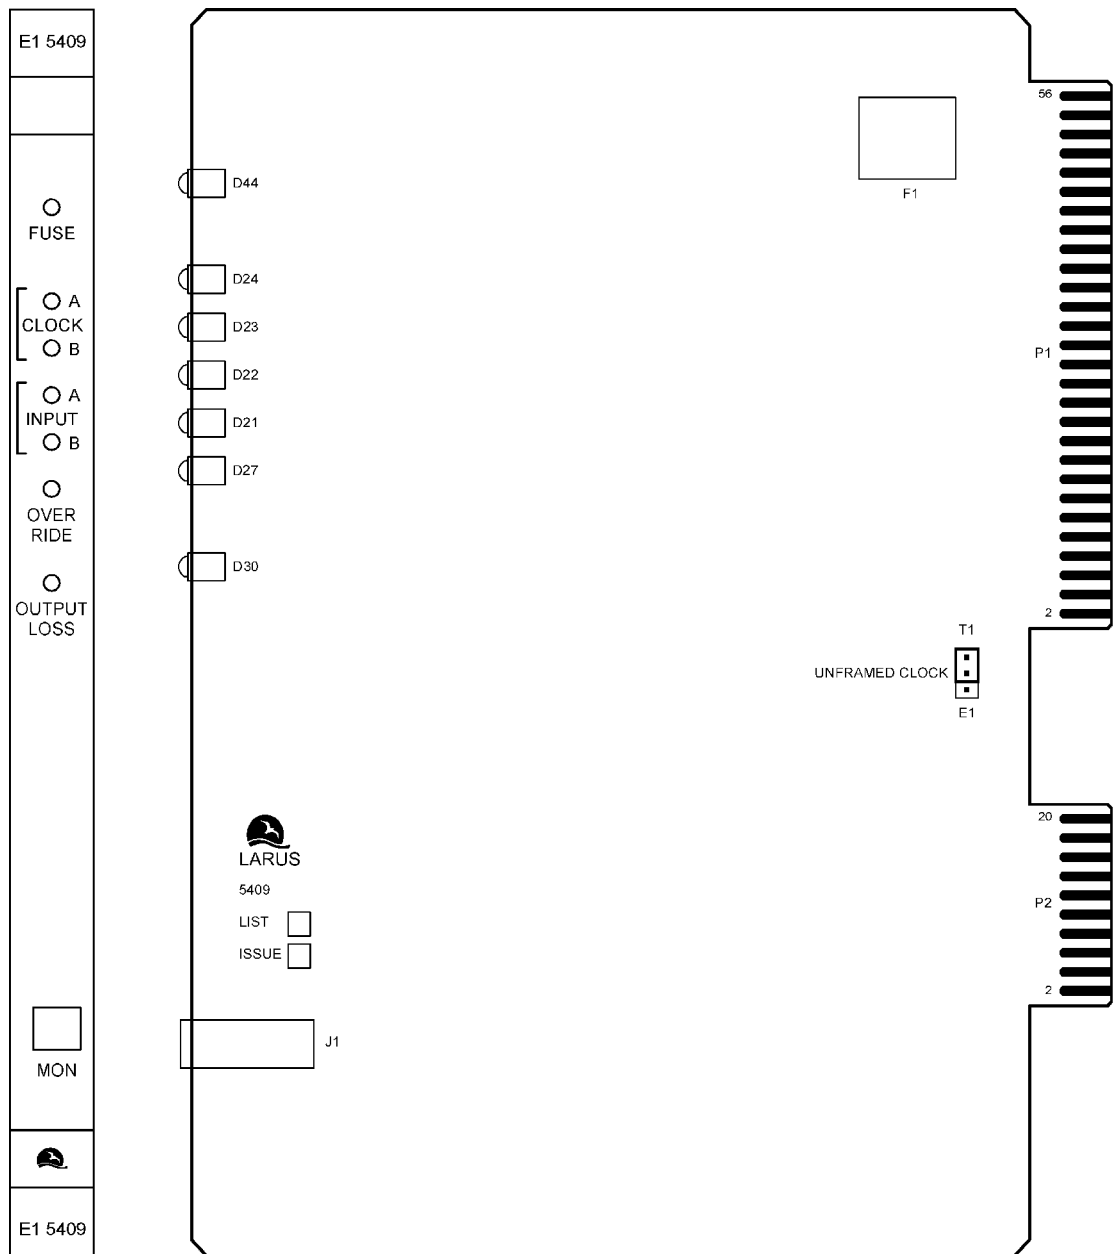
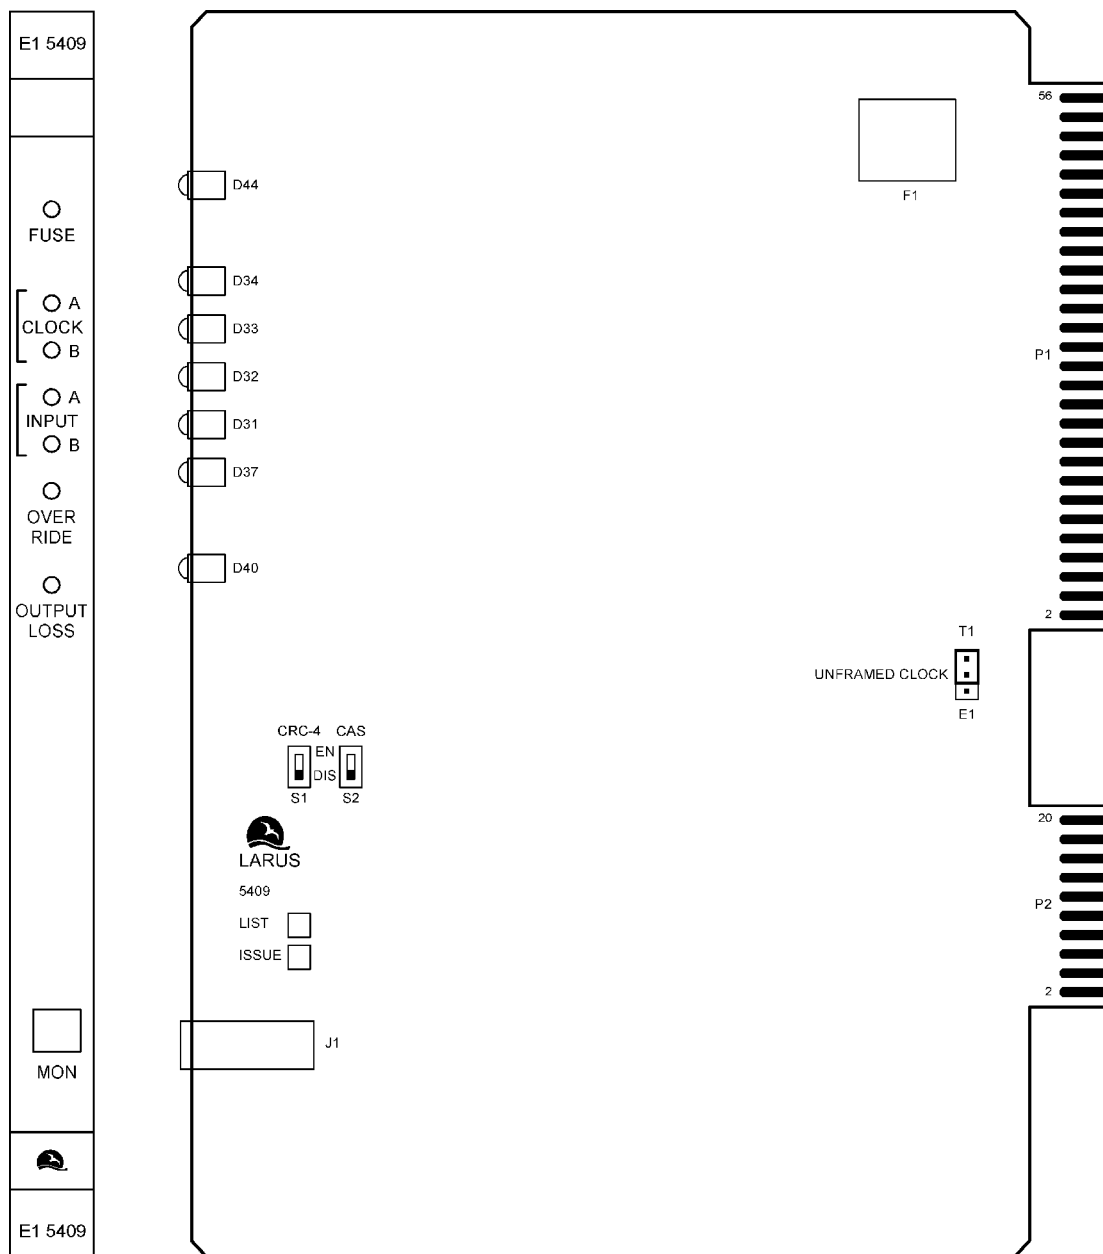

Figure 3-10a. Model 5409-2/-3 E1 Output Driver Card with Front Panel
Figure 3-10b. Model 5409-4 E1 Output Driver Card with Front Panel
3.391 For card layout and front panel of the Model 5409, refer to Figure 3-10a (Lists 2 and 3) and Figure 3-10b (List 4).
The 5409-4 card allows the user, depending on the system application, to enable or disable either of the two types of multiframe. Refer to Figure 3-10b.